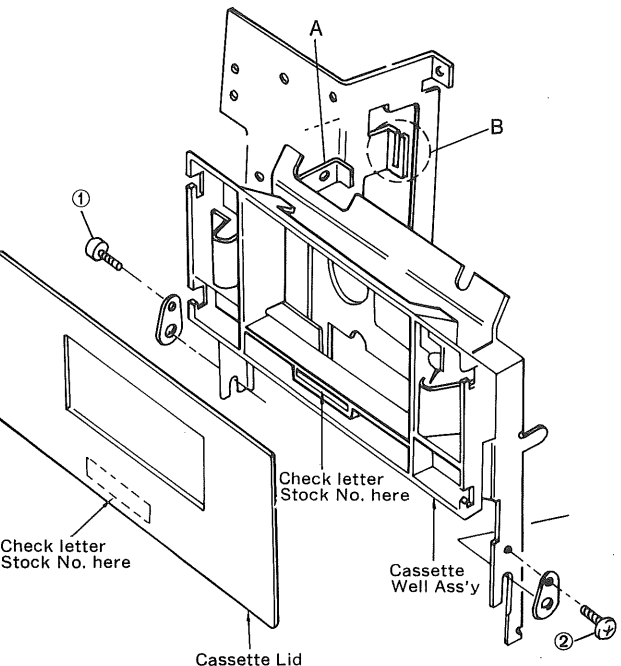

Fig. 9-2 Type A Cassette well & Cassette lid
9-2. Replacement of Cassette Well Ass'y (See Fig. 9-2)
2. Remove screws ① and ② on both sides in Fig. 9-2.
3. Move up the retainer ③, then release it from ④.